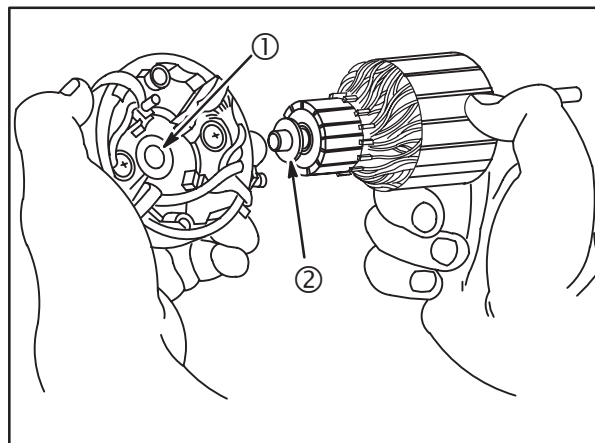

Fig. 26
When all parts have been inspected, lightly lubricate bearings(1) in both end caps with #20 oil, **Fig. 26**.
1. Install spacer (2) to armature shaft (if equipped).